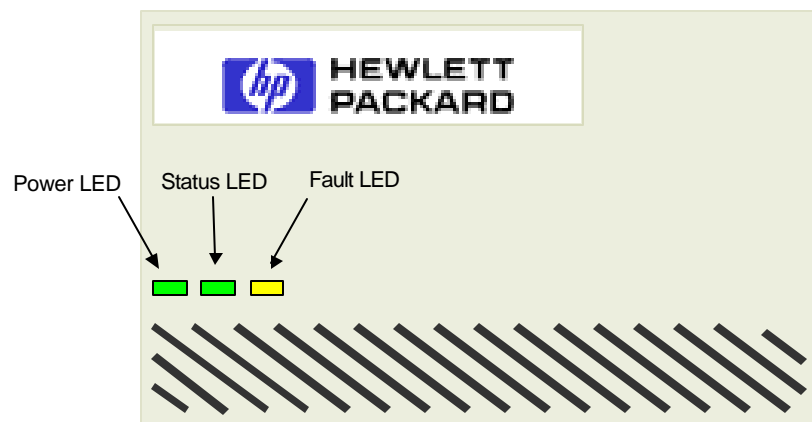
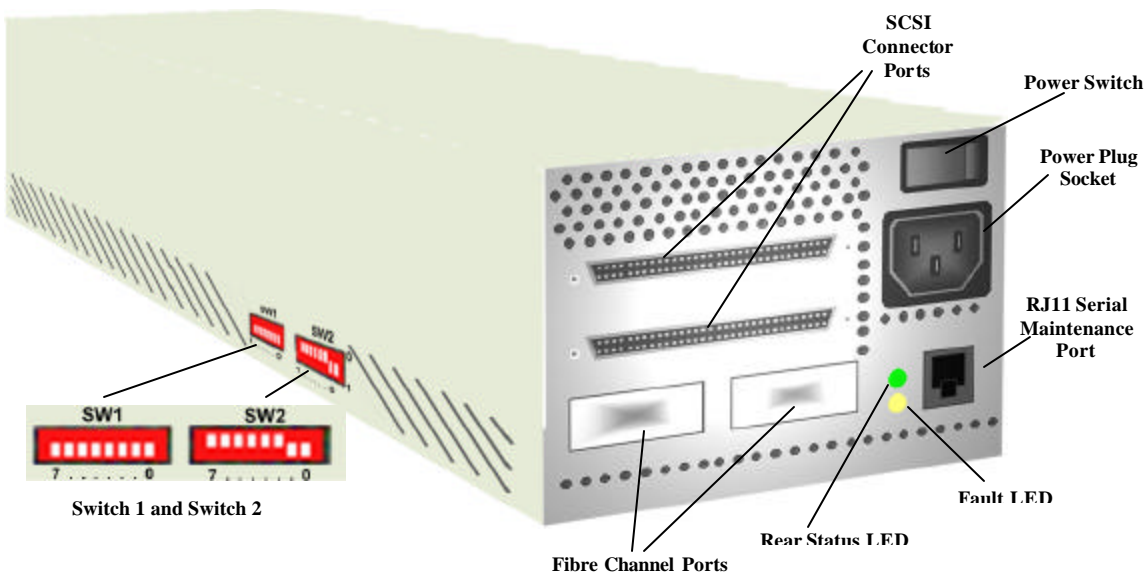

Figure 3-1. SCSI-FC Router Front Panel
Figure 3-2. SCSI-FC Router Rear Panel
4. When the Fault LED (yellow) is solid on and the Status LED (green) is blinking, it indicates that the Node Mapping Table has been cleared. (To locate the front and rear Fault LEDs, see Figure 3-1 and Figure 3-2, respectively).
1. Are the SCSI-FC Router's status LED (green) and power LED (green) solid-on and the fault LED (yellow) is off? (For front and rear LED locations, see Figures 3-1 and 3-2, respectively).
2. Ensure that the power switch is in the 'on' position (1 represents 'on' and 0 represents 'off'). (See Figure 3-2, *SCSI-FC Router Rear Panel*, for power switch location.)
1. If conditions continue then toggle the power switch. (See Figure 3-2 for power switch location.)